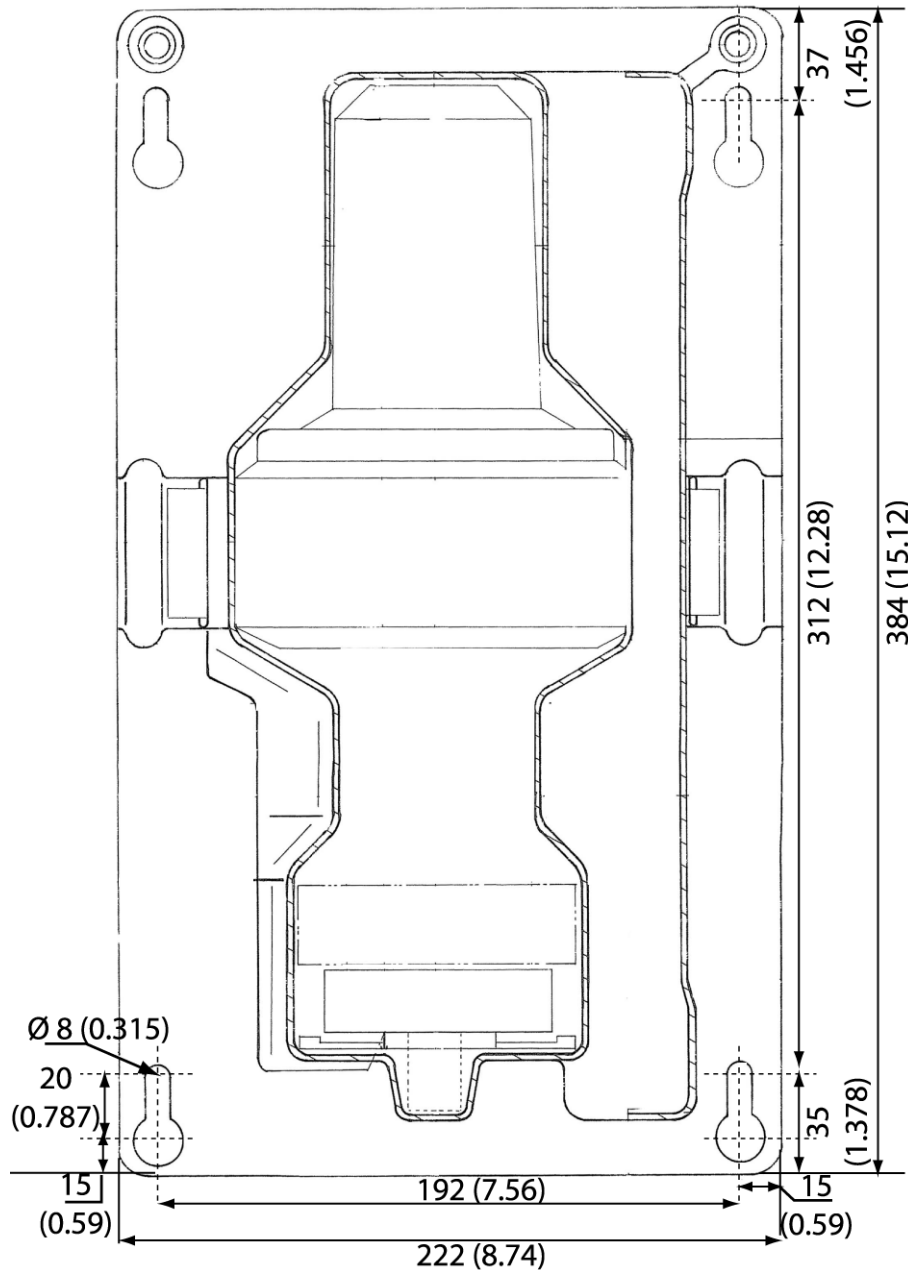

Figure 29 - Support, drilling mask
- (1) Drill the partition according to the drilling mask (See Figure 29 - Support, drilling mask).
- (2) Screws the 4 screws.
- (3) Place the support by sliding it down onto the head of the four screws.
- (4) Secure the two upper screws with the two safety pins.